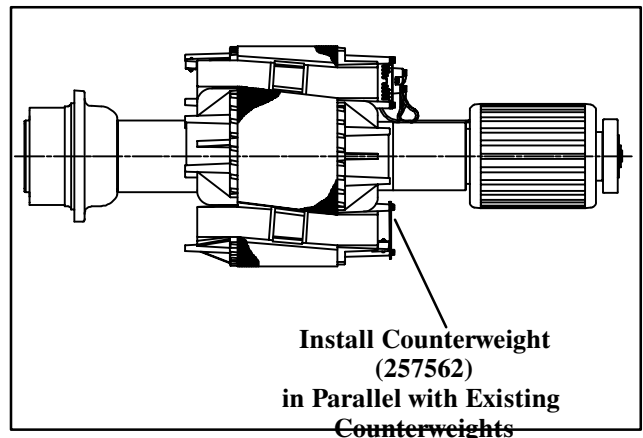

Figure 7. Installation of Counterweight
15. Remove four screws and washers securing counterweights to rotor. See Figure 7. Position new counterweight (257562) in parallel with existing counterweights and secure in same position on rotor. (The additional counterweight is necessary to counteract the additional weight of the SCR assembly.) Secure counterweights with original hardware.